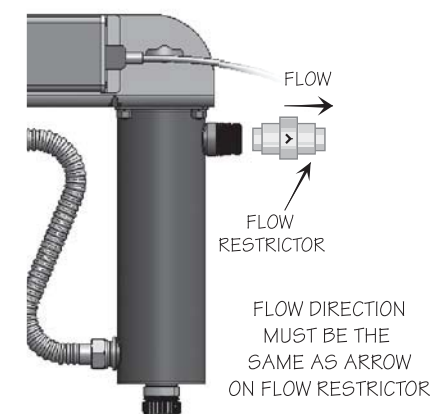

Figure 4 Flow Restrictor
3. Mount the system to the wall with appropriate lag bolts (not supplied) through the two mounting holes located on the metal bracket. The use of a flow restrictor device is recommended when installing your system in order to maintain the manufacturers maximum rated flow. The flow restrictor should be installed on the outlet port and is designed to be installed in one direction only. Ensure that the flow of the water matches the flow direction as indicated on the flow restrictor. Refer to Figure 4.